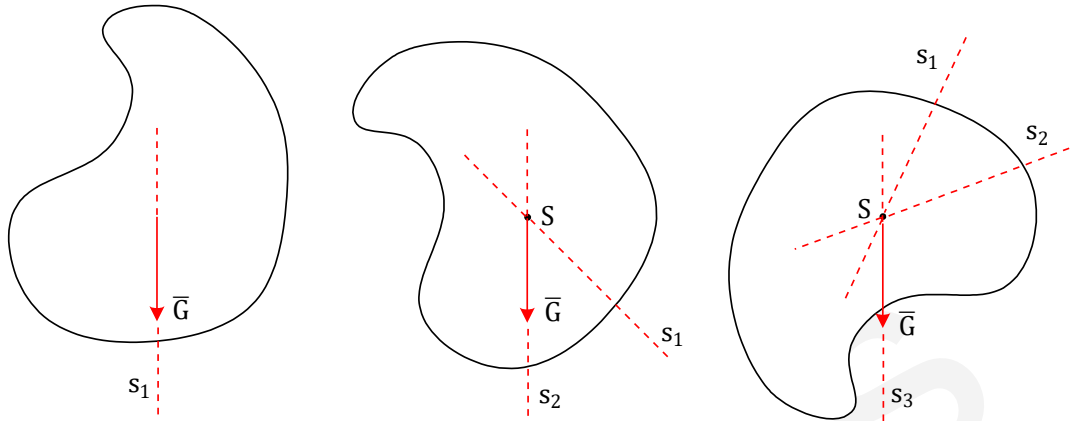

Figure 36
*Figure 36* represents the body in three different positions. To the different positions belong different action lines which intersect each other at the same point (S). Point S is called as the **centre of gravity**.